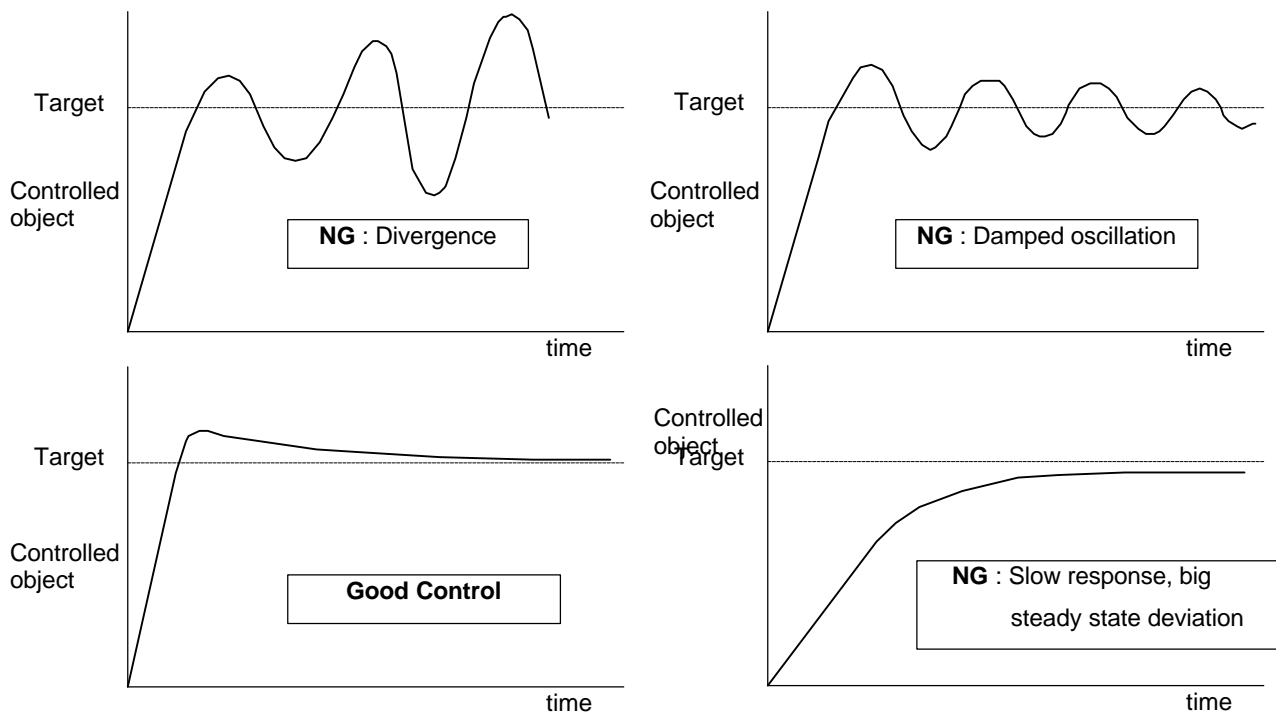

Fig. 2-4 Example of good control and bad control (in case of step response)
You adjust each parameter K_p , T_i and K_d inside the stable performance area. Generally, when you increase each gain (K_p , K_i , K_d) parameter (= decrease Integration time : T_i), you can obtain quick response. But if you increase them too much, the control will be unstable, because the feedback value is continuously increasing and decreasing, which leads to an oscillation of the control. In the worst case the system is led to a divergence mode. (Refer to Fig. 2-4)
- Check the response of feedback signal or the output frequency of the inverter when making a step change in the target. (Please refer to Fig. 2-4)
(1) Adjustment of Proportional Gain (K_p : Function No. A72)